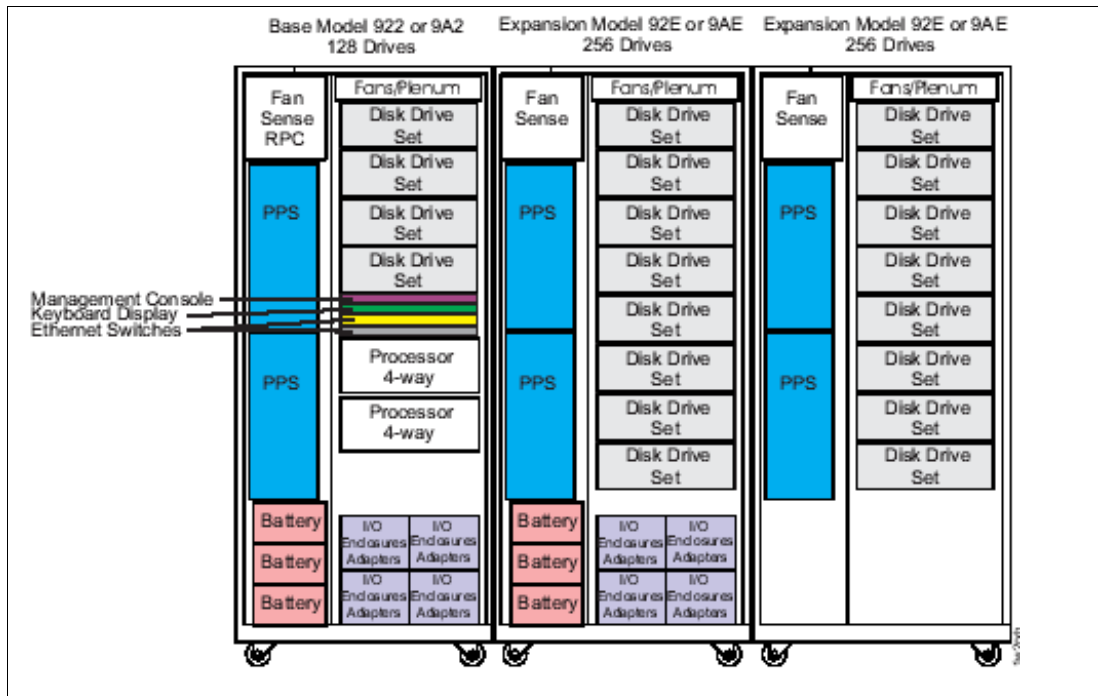

Figure 6-5 DS8300 max config for Model 922/9A2 with 2 expansion frames (either 92E or 9AE)
- Up to 640 DDMs in total for a maximum of 192 TB disk storage when utilizing 300 GB DDMs. Figure 6-5 shows such a maximum configuration for Model 922 with two expansion frames, Model 92E, or a Model 9A2 with two expansion frames Model 9AE. This figure also shows the basic hardware components and how they are distributed across all three frames.
Note the additional I/O enclosures in the first expansion frame, which is the middle frame in Figure 6-5. Each expansion frame has twice as many DDMs as the base frame, so with 128 DDMs in the base frame and 2 x 256 DDMs in the expansion frames, a total of 640 DDMs is possible.